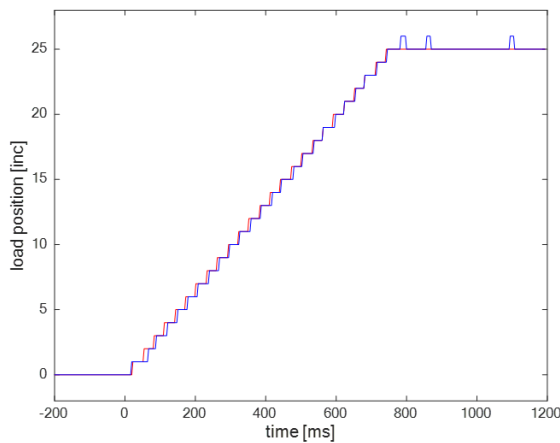
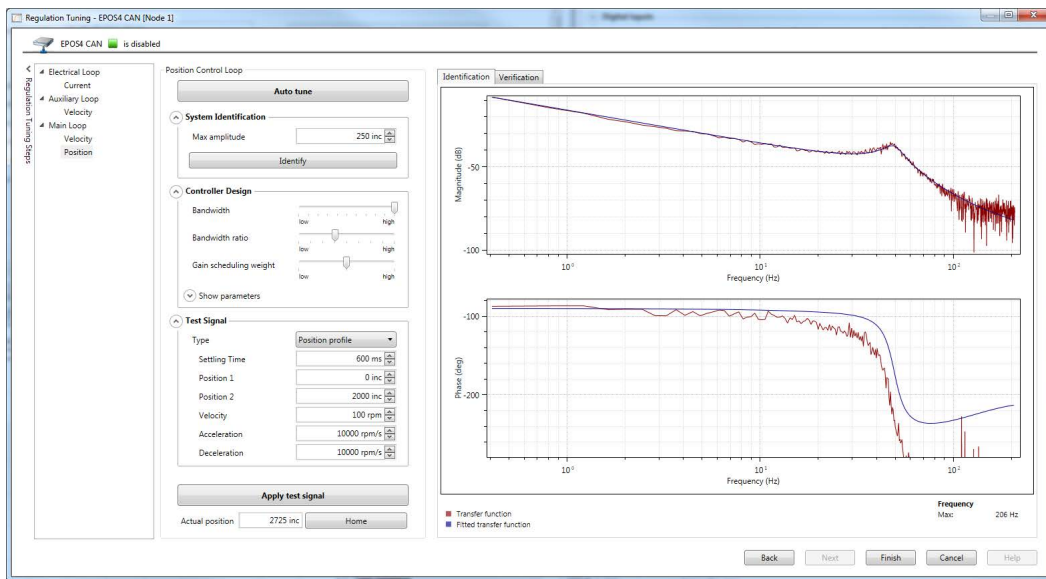
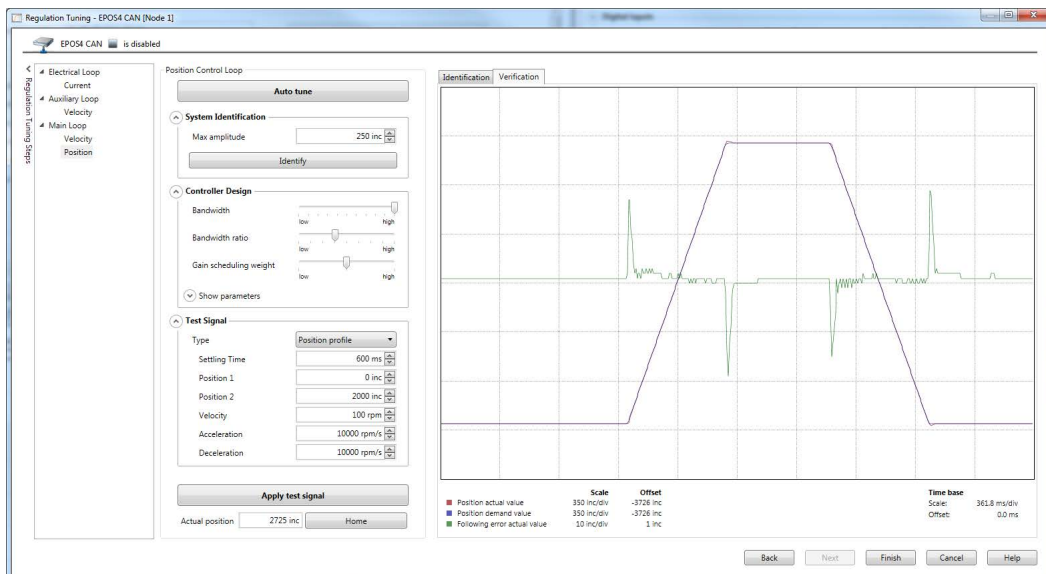

Figure 10-183 Dual loop control | Use case 1: Load position control with PID position controller
Figure 10-185 Dual loop control | Use case 1: Main loop tuning dialog box with the «Identification» tab active
Figure 10-186 Dual loop control | Use case 1: Main loop tuning dialog box with the «Verification» tab active
Using the path planner and executing the trajectory with the maximal velocity of 1 rpm, an acceleration of $1000 \frac{rpm}{s}$, and a position change of 25 increments, the result obtained is as in →Figure 10-183.
- The «Verification» tab in the dialog box contains the test signal of the resulting controller. The «Bandwidth» of the controller can be adjusted using a slider. Higher bandwidth means faster and more aggressive control behavior. However, it should be noted that for each system there are limitations on the achievable closed loop bandwidth and that the auto tuning algorithm will consider these limitations when calculating the main loop parameters. The other two sliders may be used to set the «Bandwidth ratio» and the «Gain scheduling weight». These parameters influence the elimination of the backlash effects and should be adjusted such that no backlash effects (as shown in →Figure 10-183) are visible in the verification signal. Increasing the «Gain scheduling weight» (moving the slider to the right) and decreasing the «Bandwidth ratio» (moving the slider to the left) has a positive effect on eliminating the negative effects caused by the backlash. The main loop tuning dialog box is shown in →Figure 10-185 and →Figure 10-186.